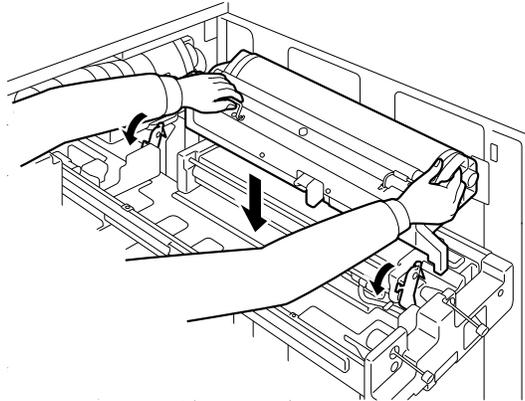

Figure 5-12
12. Install the OPC Cartridge in the EP Drawer as shown in Figure 5-12.